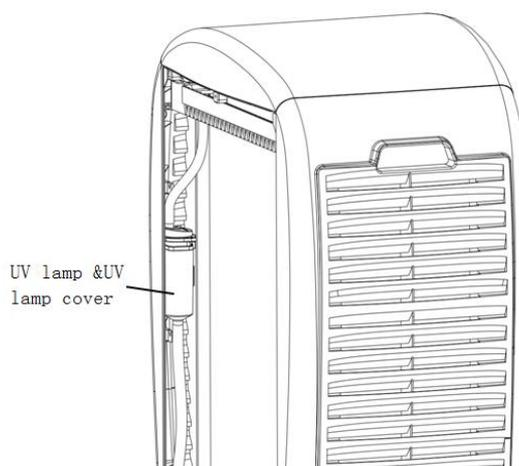

fig. 4
7. Press “ON” button to make the unit ready for working Press “COOL” button to improve the air damp, avoid skin dry and spall in winter. When press “COOL”, the built-in UV lamp start working, the ultraviolet ray can sterilize the water flowing through the UV lamp cover(shown as fig.4).